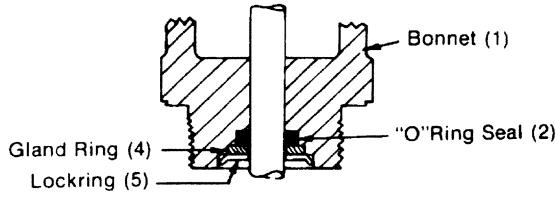

Figure 2 - Stem Seal Classes
1. Remove adjusting sleeve (51), hold pilot stem (7) by placing pin in hole and remove stem screw, freeing springs and seats.
2. Remove bonnet (1) from housing (6). Clean stem. Do not use abrasives.
3. Replace pilot stem in bonnet. Remove worn O-ring, and replace as described in figure 2.
4. Reassemble bonnet gasket (34) and bonnet (1) to pilot housing and tighten in place.
7. Reassemble adjusting sleeve (51) and element on bonnet (1) and readjust for temperature. Tighten.
To install O-Ring seal, moisten O-Ring with lubricant and place in counterbore in bonnet. Insert gland ring in its recess in bonnet, then press lockring in place (firmly against gland ring) and with prongs positioned as shown in figure 2.